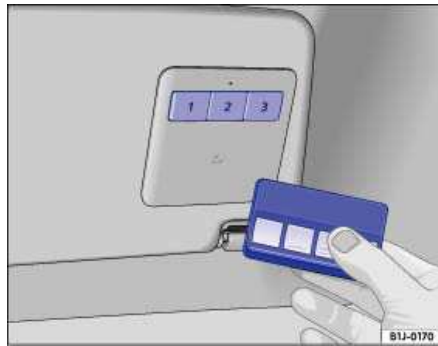

Fig. 41 In the driver side sun visor: The remote control and buttons for the HomeLink Universal Transmitter.
2. Position the hand-held transmitter for your remote control device 1-3 inches (25-75 mm) away from the HomeLink keypad on the driver side sun visor, keeping the HomeLink indicator light in view, as shown ⇒ fig. 41.